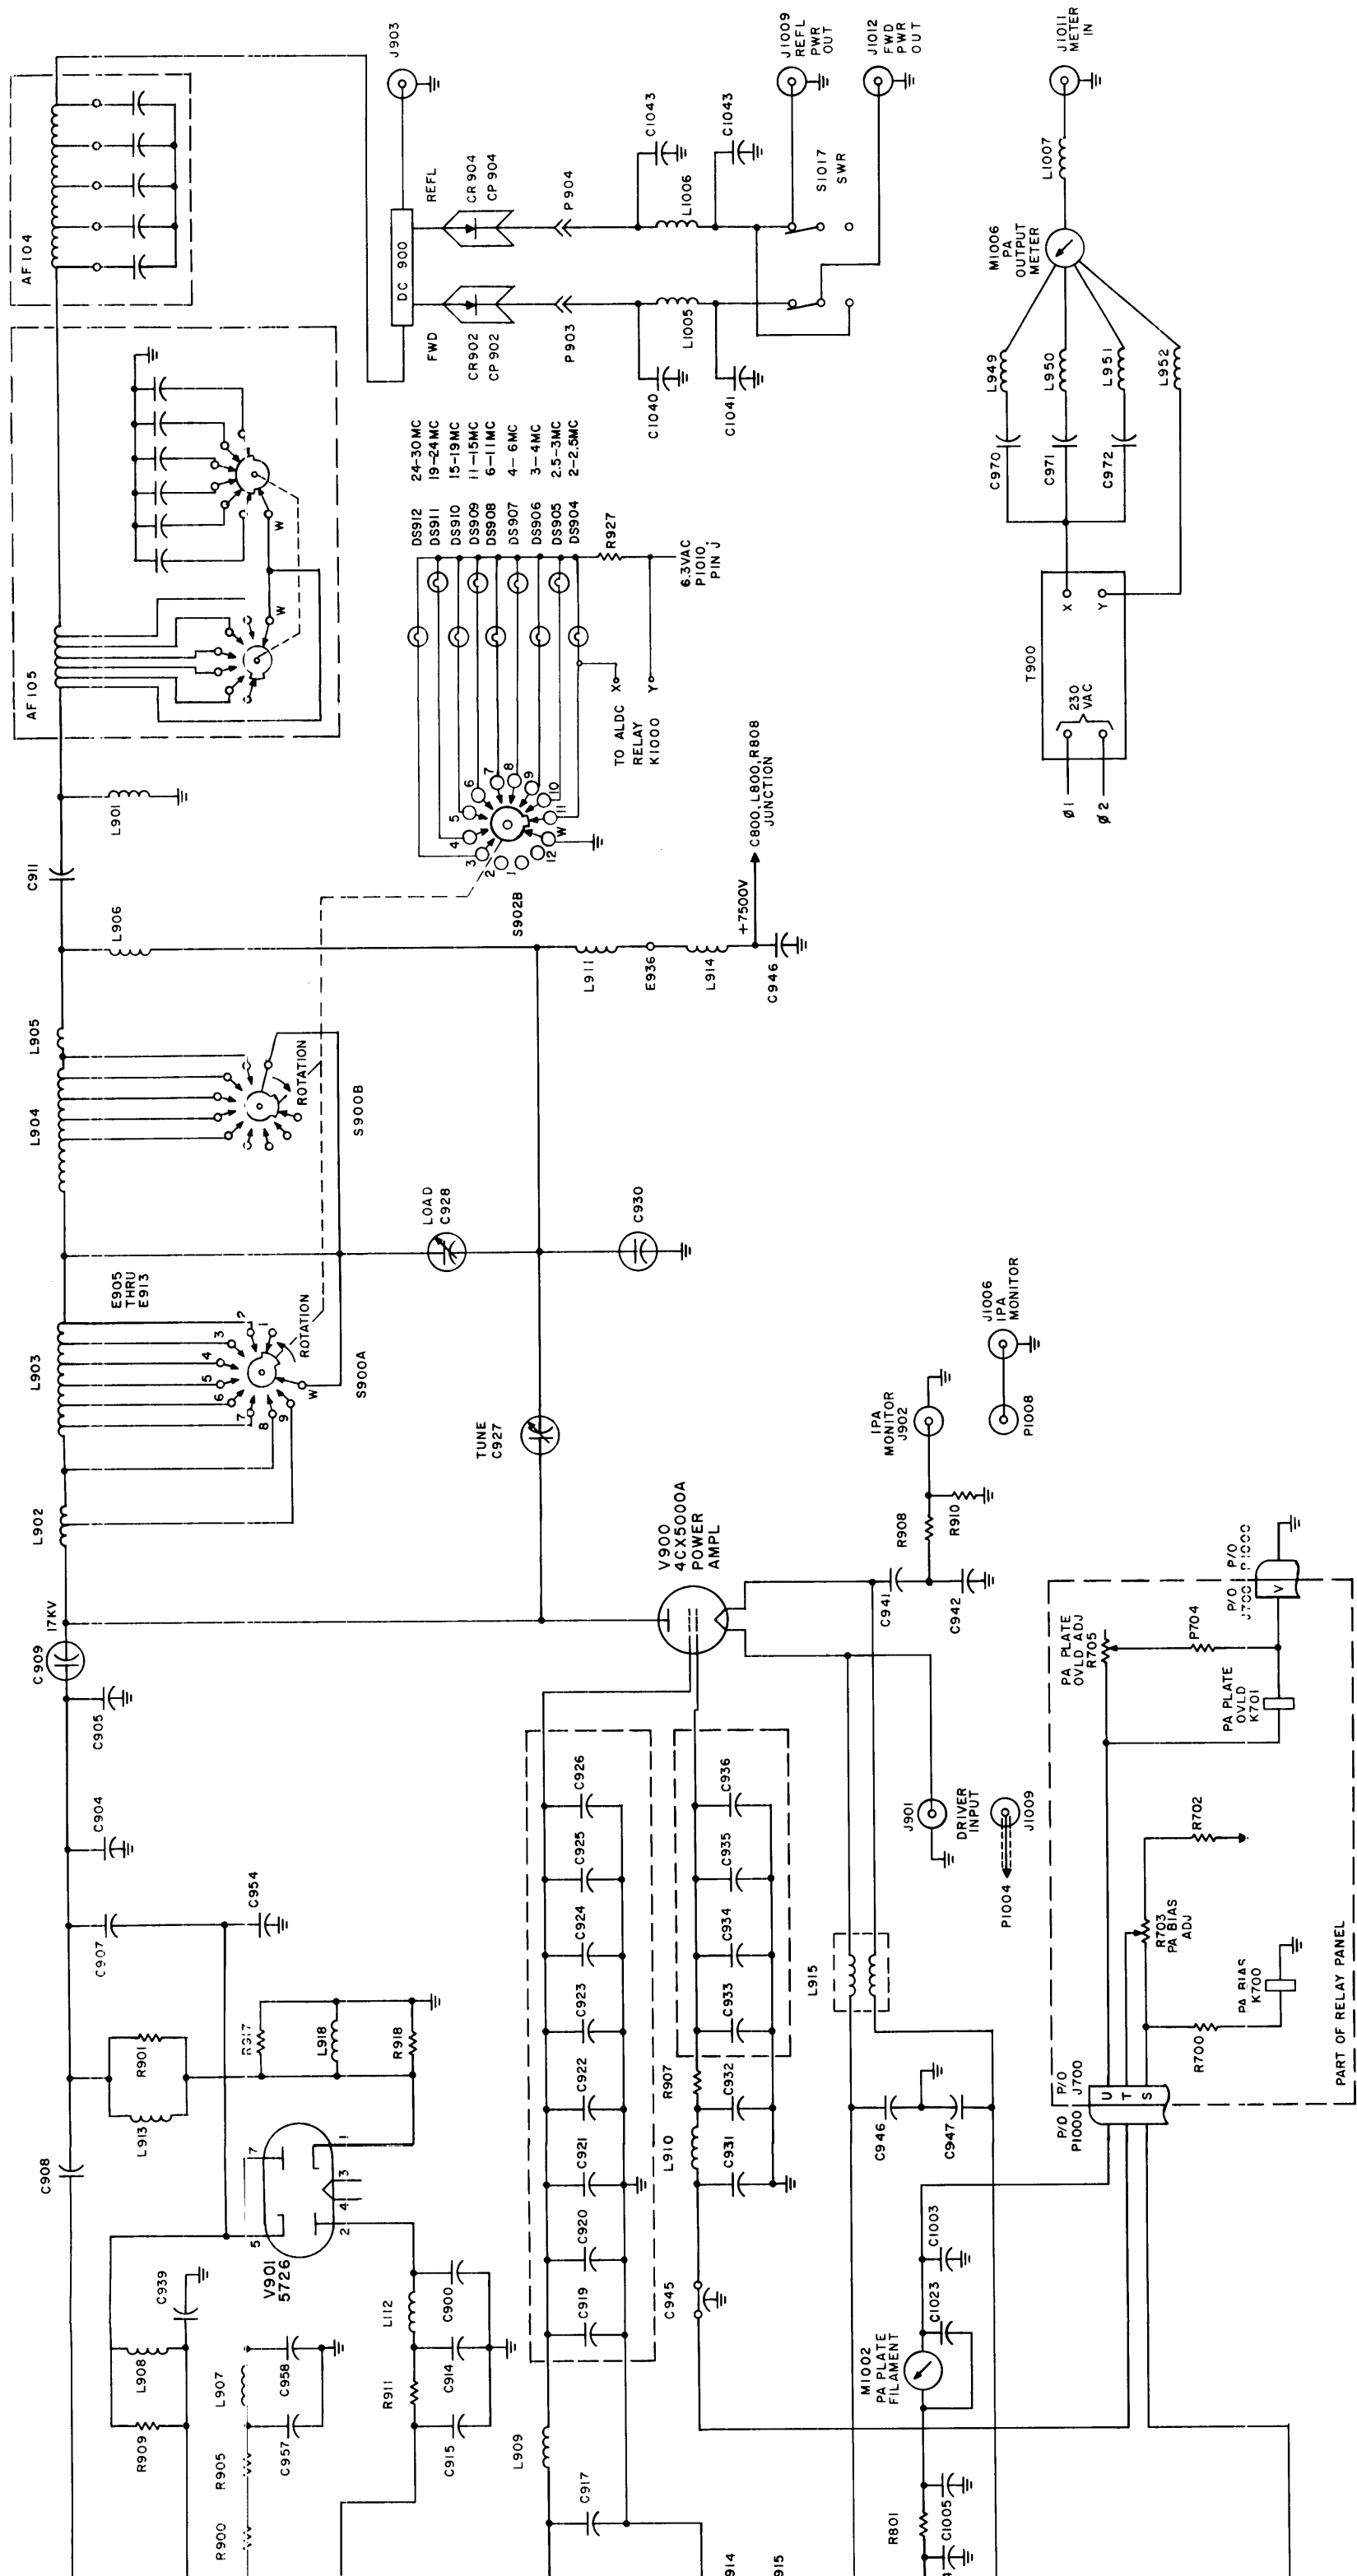

Figure 2-2. Simplified Schematic, 10-kw PA.
b. CIRCUIT ANALYSIS. (See figure 2-2.) - The signal to be amplified by power amplifier V900 is applied to its cathode via DRIVE INPUT jack J901. IPA MONITOR jack J902 provides means for monitoring this signal. The signal is coupled to jack J902 through an RC voltage-divider network consisting of capacitors C941 and C942 and resistors R908 and R910.